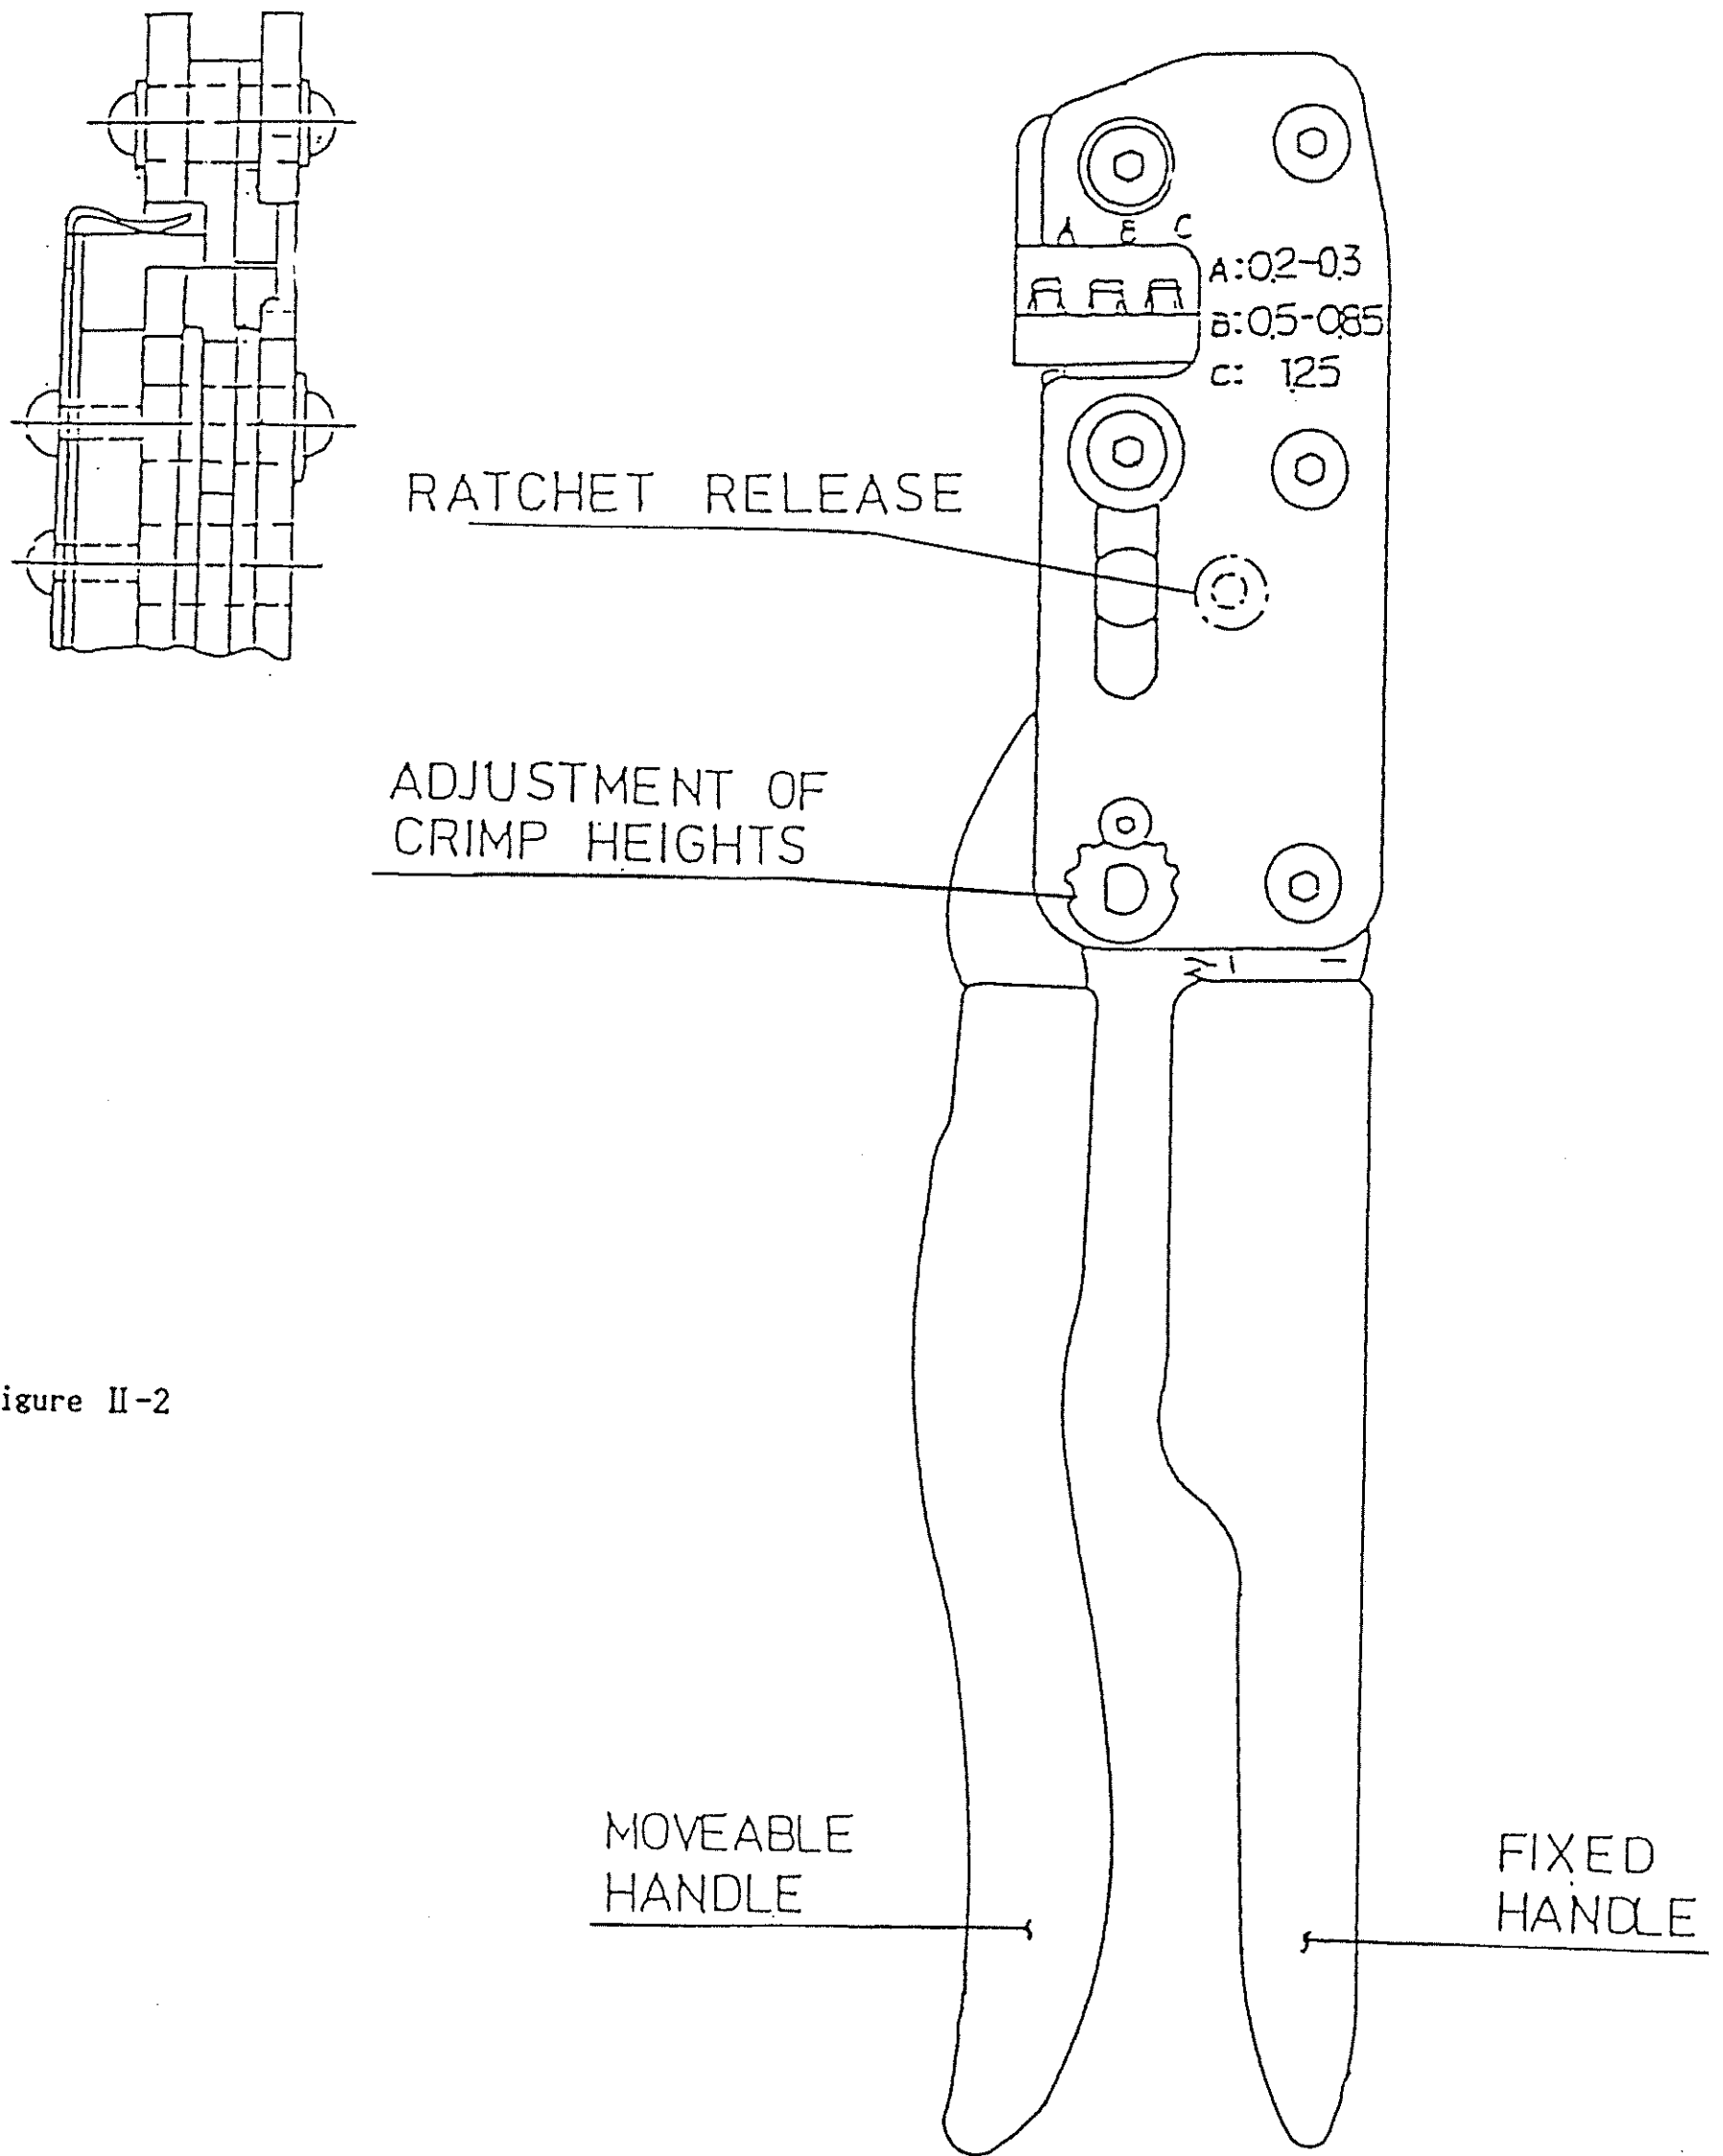

Figure II-2
This inspection requires the use of a micrometer with a modified anvil as shown in Figure II-2.
1. Refer to the chart in Figure II-2, and select a contact and a wire (maximum size) for each crimp section listed in the chart.
3. Using a crimp height comparator, measure wire barrel crimp height as shown in Figure II-2. If the crimp height conforms to that shown in the cart, the tool is considered dimensionally correct.